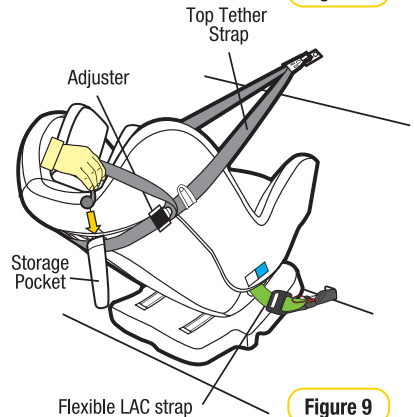

Figure 9
Step 8: Store any excess webbing, from the top tether strap, in the storage pocket provided on the restraint (refer Figure 9).